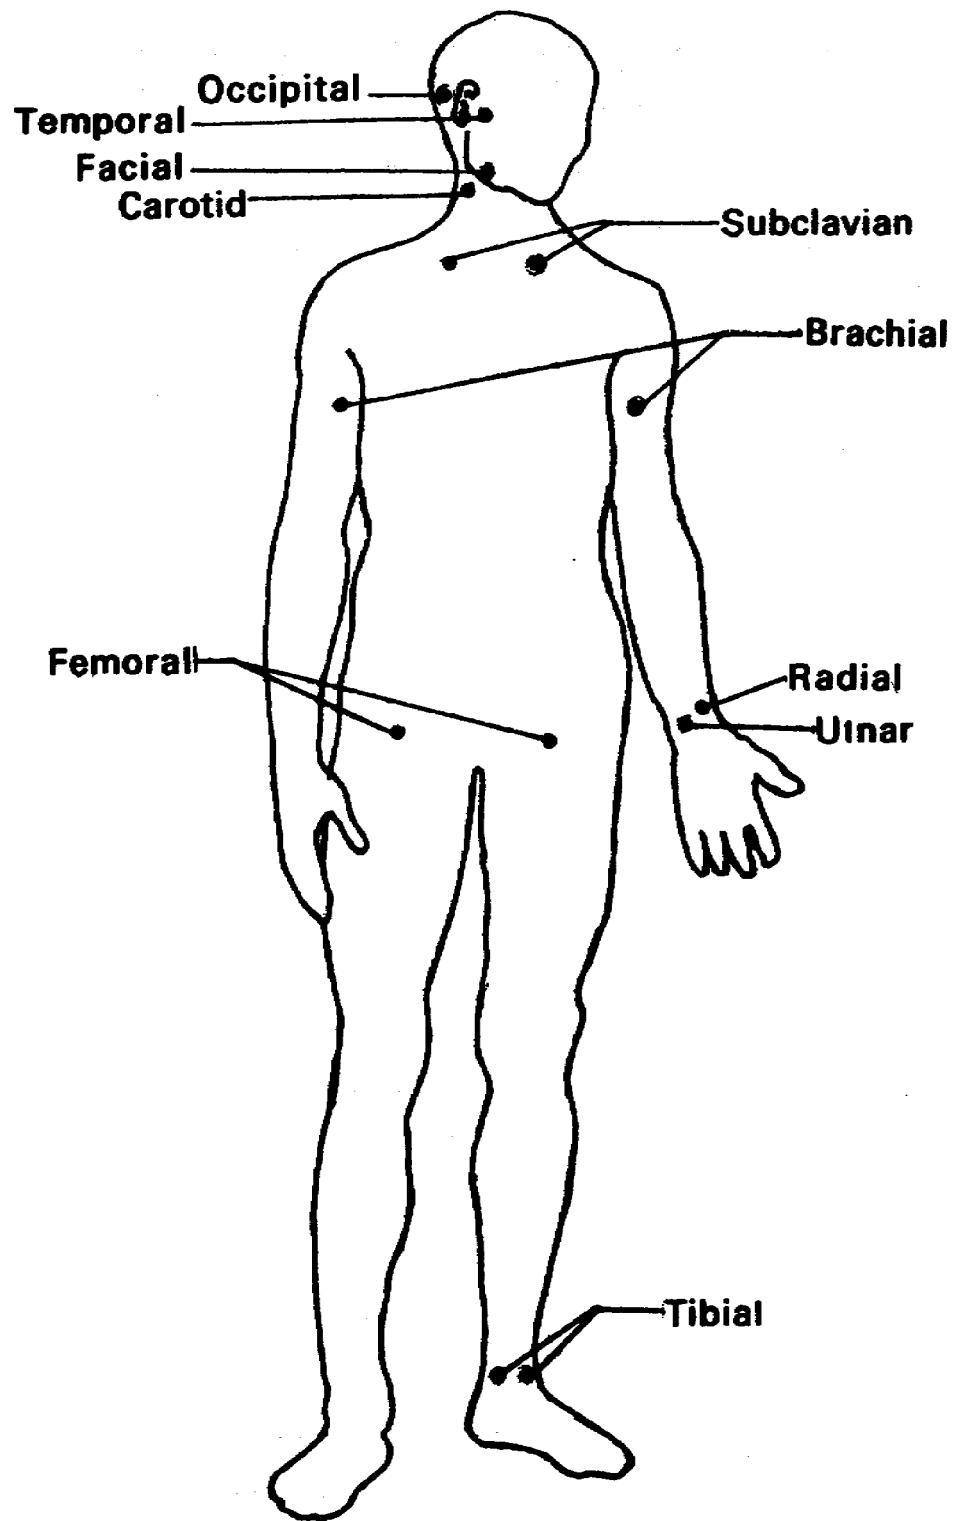

Figure 17. Pressure points for control of bleeding.
- (1) Arterial bleeding. If an artery is cut or severed, the blood appears bright red in color and spurts out with each heartbeat. This type of Hemorrhage requires immediate attention regardless of how slight it may appear. Fortunately, arteries are pretty well protected by surrounding flesh and are near the skin's surface at only a few points on the body.
- (2) Capillary bleeding. An example of capillary bleeding would be a superficial cut such as a nick you might get in shaving. The blood is also dark red in color, and it is characterized as a slow oozing.
- (3) Venous bleeding. In venous bleeding, the blood appears dark red and does not flow in spurts, but is continuous. Many of the veins are near the surface of the skin, and thus are often involved in shop injuries, such as lacerations, sharp cuts, and punctures.
- (4) Internal bleeding. Less obvious than the various kinds of external bleeding is the internal hemorrhage, which occurs within the body, such as in a body cavity or organ. Any indication of blood being coughed up, vomited, or excreted suggests the occurrence of internal hemorrhage, and the case should be turned over to a physician. Always regard any sign of internal bleeding as a serious matter calling for professional diagnosis.
c. There are Various Ways of Treating Severe Bleeding. Pressure directly applied against the wound will stop or slow the bleeding and allow blood to clot. About 5 to 10 minutes will usually suffice. If a sterile gauze pad or compress is handy, press it against the wound. In an emergency, any clean cloth will do. The main thing to do is stop or slow the bleeding. Another way to control bleeding is to elevate the injured part. This lessens blood pressure at the wound site and aids the flow of venous blood from the area. Thus, arterial or venous bleeding may be reduced or slowed by this method. Another technique is using certain pressure points (fig. 17) to control arterial bleeding for a short time until more suitable control can be accomplished by the medical profession. The pressure points are those plates where major arteries lie near the skin surface. Pressure applied at these points will slow or stop the flow of blood to certain areas of the body. Manual pressure followed by the pressure of a bandage usually will keep the bleeding under control. The standard way of manually applying pressure on a pressure point is with the thumb, because it is the strongest digit. But first, the tip of the forefinger, being sensitive, pinpoints the precise location of the pressure point by detecting pulse. Now, with the help of figure 17, let's identify and describe the pressure points.
- (1) Carotid. Passing up either side of the neck, the common carotid artery affords a pressure point situated in the lower part of the neck. The carotid arteries are main blood vessels that feed blood to the brain and to lingual, facial, temporal, and occipital branch arteries. Pressure on a carotid artery can stop all blood flow to its side of the head. Since such stoppage could harm the brain, a first aider should use this pressure point only in the most severe cases of bleeding in the head or in the neck above this pressure point.
- (2) Facial and occipital. The facial artery and the occipital artery in either left or right half of the head are branches of the carotid. Pressure point for the facial is in a small hollow at the side of the lower jawbone. If the victim clenches his jaw, you can find it easily by feeling its pulse just in front of the jaw-clenching muscle. Pressing this point stems bleeding on the side of the face that is concerned. For bleeding near the middle of the face, you may have to press both the left and the right facial pressure points simultaneously. The pressure point associated with the occipital artery is sometimes hard to find, but it is about midway between